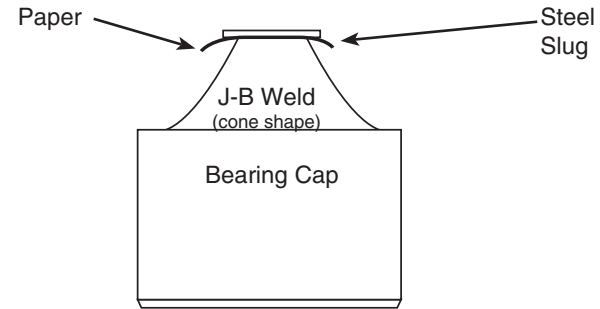

Figure 4
12. Apply a liberal amount of J-B Weld to form a cone shape as shown. (See Figure 4.)